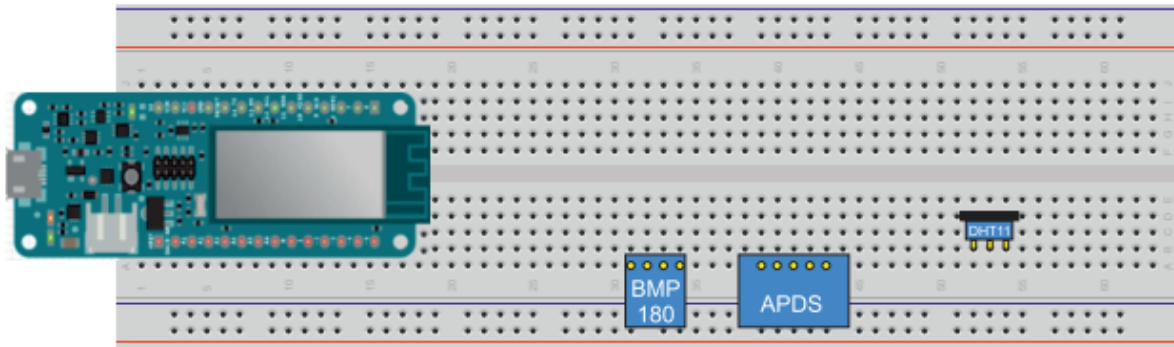

Figure 4. Connection step 1
The schematics in Figure 4 shows the mentioned sensors mounted on the experimental board. Yellow-colored contacts indicate the contacts of the individual sensors that we will connect to the Arduino MKR1000 platform.
2.1.1. Connection step 1 (Figure 4):